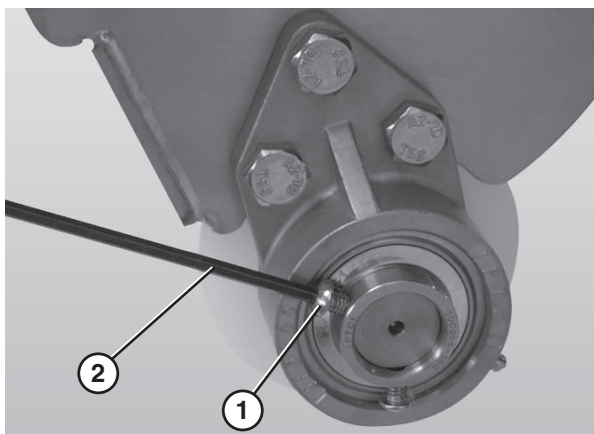

Figure 53
6. Loosen the 3 hole flange (**Figure 53, item 1**) with bearing fasteners using a hex wrench (**Figure 53, item 2**).